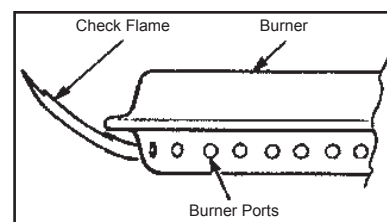

Fig. 9
- All the ports on the burner should show a 2.5cm flame on "Hi" setting. (Fig. 9)